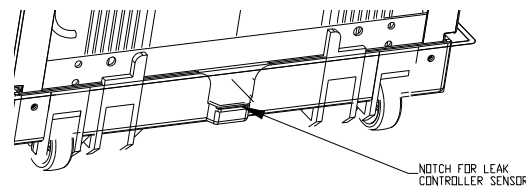

Figure 2
7. Snap the plastic sensor connector onto plastic base in the location marked in figure 2. The clip snaps over rib on outside of base so that terminals in the plastic housing are inside the base.